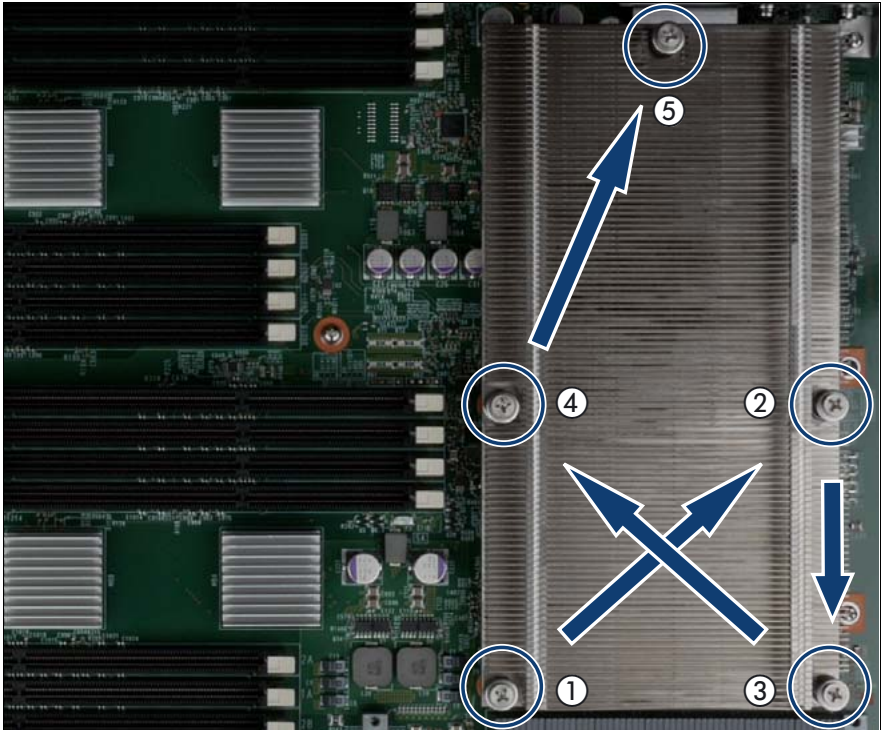

Figure 121: Installing the heat sink
- Start with screw 1 to screw 5 as indicated in figure 121 and continue with screw 1.